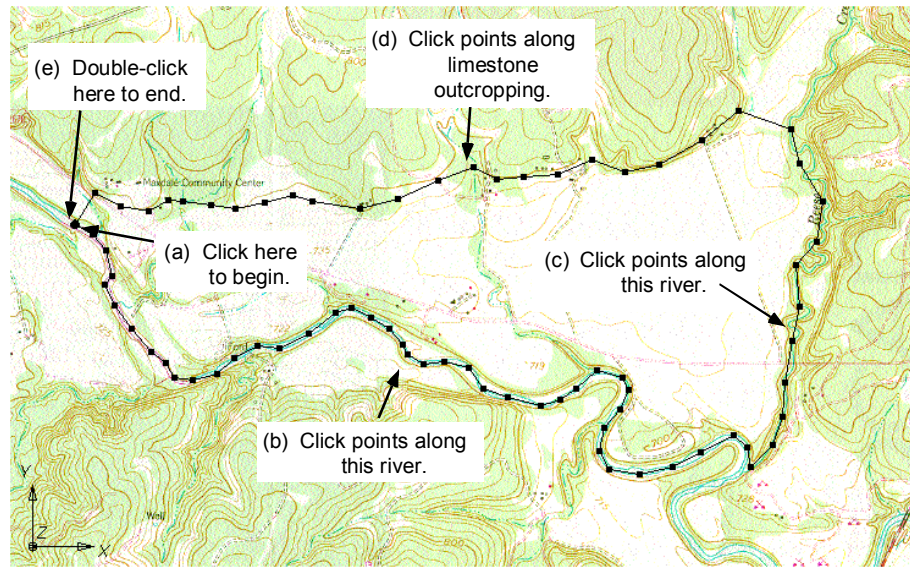

Figure 4-2 Creating the Boundary Arc.
2. Begin the arc by clicking once on the left (west) side of the model at the location shown in Figure 4-2.
3. Create the arc by proceeding around the boundary of the site in a counter-clockwise direction and clicking on a sequence of points around the boundary. Don't worry about the spacing or the exact location of the points; just use enough points to define the approximate location of the boundary. The boundary on the south and east sides of the model should coincide with the rivers. The boundary along the top should coincide to the limestone outcropping as shown in Figure 4-2.